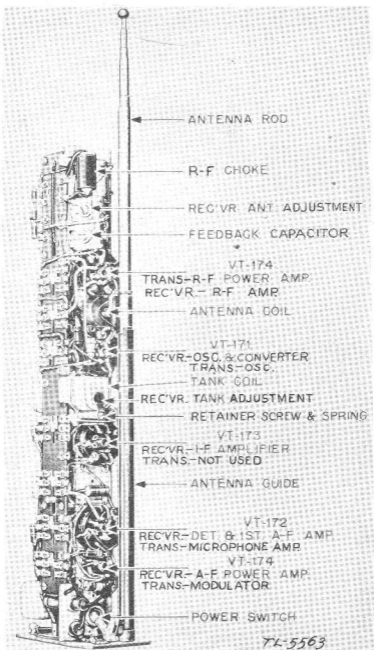

FIGURE 9.—Radio receiver and transmitter BC-611-(*)—bottom view of chassis.
b. R-f tank coil.—To remove, loosen the screw holding down the coil retainer spring on top of the coil. (See fig. 9.) Swing the spring free of the coil. The coil then can be lifted out of the socket. When replacing with another coil of the desired frequency, carefully fit the coil over the two pins projecting up from the socket so that the pins fit into the holes in the coil form and the coil adjustment shaft fits into the hole in the socket. Gently press the coil into the socket, replace the coil retainer spring on top of the coil, and tighten the screw holding the spring.
b. *R-f tank coil.*—To remove, loosen the screw holding down the coil-retainer spring on top of the coil. (See fig. 9.) Swing the spring free of the coil. The coil then can be lifted out of the socket. When replacing with another coil of the desired frequency, carefully fit the coil over the two pins projecting up from the socket so that the pins fit into the holes in the coil form, and the coil adjustment shaft fits into the hole in the socket. Gently press the coil into the socket, replace the coil-retainer spring on top of the coil, and tighten the screw holding the spring.